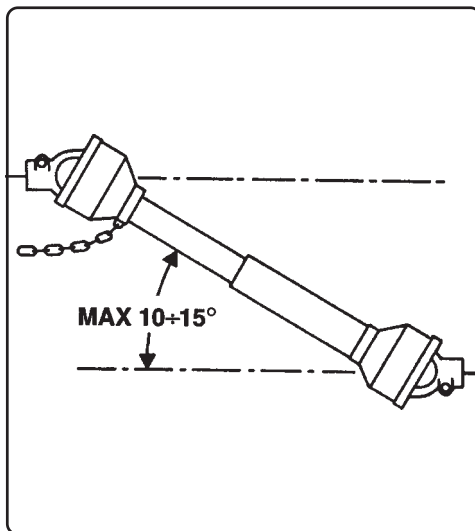

Fig. 5
- The safety plates (Fig. 5) must always be fully in view. They should be kept clean and be replaced if they become hard to read.
- Always disconnect the PTO when the cardan shaft makes too wide an angle, never over 10-15 degrees (Fig. 5).